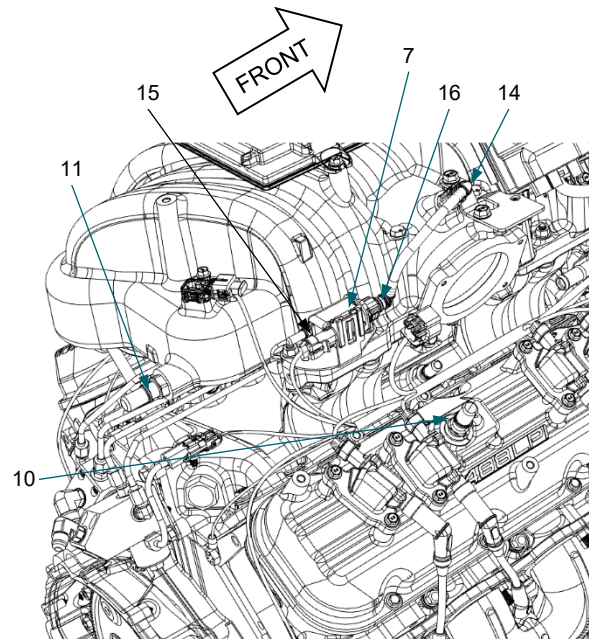

Figure 2:
6. Verify EVAP Purge Solenoid Quick Connect Fitting (16) and Upper Intake Manifold fitting (14) are securely fastened. *Figure 2*
7. EVAP Purge Line quick connect fitting (15) at EVAP Purge Solenoid (7) is securely fastened. *Figure 2*